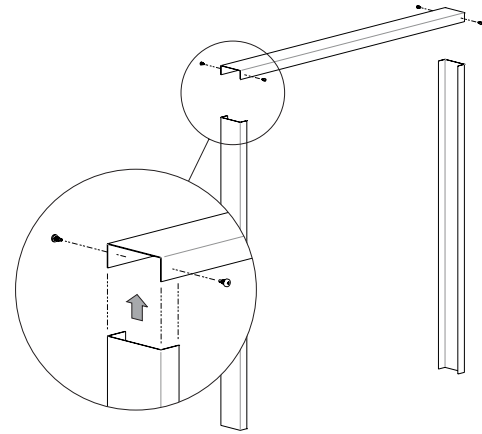

Figure 13
2. Connect the side framing studs to the top stud as shown in Figure 13. The channel of the studs should face inward.